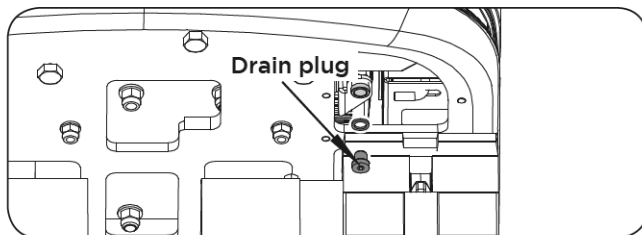

Figure 87
2. Re-tighten the drain plug. (See **Figure 87**)